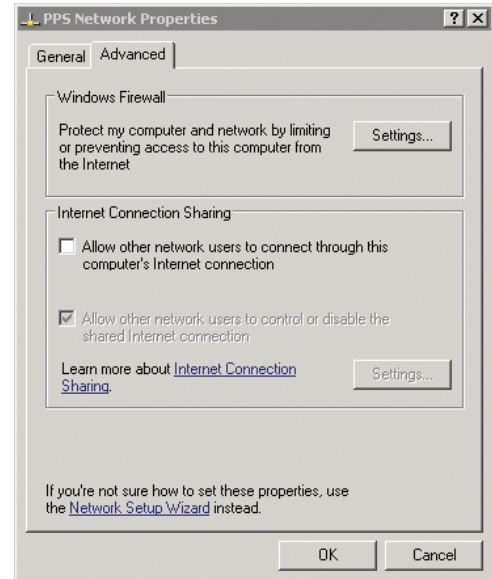

Figure 112. PPS Network Properties Advanced tab.
3. Click the **Advanced** tab (see Figure 112).